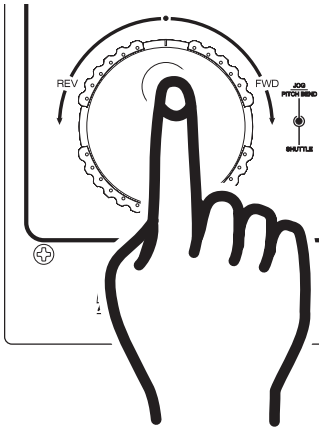

Figure 19
This function will increase or decrease a tracks playback speed or "PITCH," this is not a momentary change as in "PITCH BENDING" (see page 19). The maximum pitch bend percentage allowed is +/-16%. The PITCH SLIDER (21) is used to decrease or increase the playback pitch. If the slider is move up (towards the top of the unit) the pitch will decrease, if the slider is moved down (towards the bottom of the unit) the pitch will increase. The PITCH SLIDER (23) adjustment can be changed to range from +/-8%, +/-12%, or +/-16% (See changing "PITCH SLIDER PERCENTAGE RANGE" figure 19/page 20). The pitch adjustments will effect playback, reverse playback, and loops.